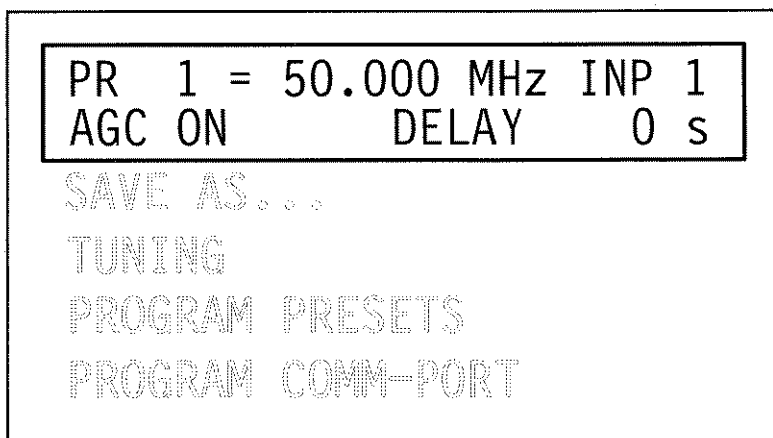

Figure 2-9: Recalling a Preset
8. Use the down key to sequence through the menu until PR flashes. The display will be similar to Figure 2-9.